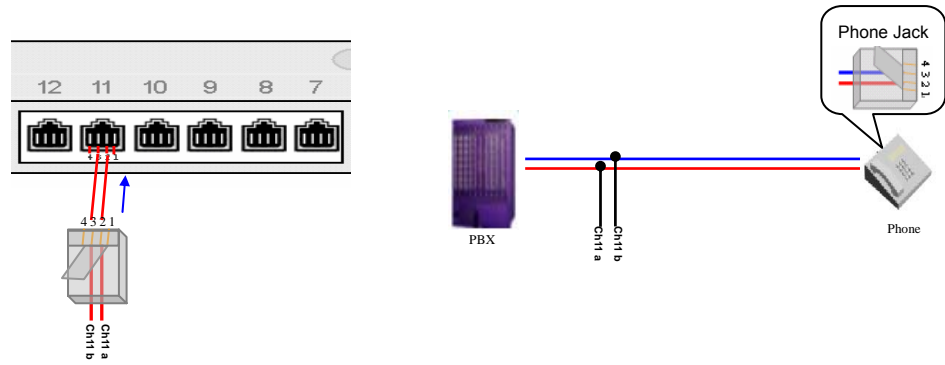

Figure 2-6
① In case of connection with RJ11 jacks, our company provides an RJ21 connecting line and an RJ21-to-RJ11 adapter and recommends the following connection methods:
- a. Connection by 2-lead lines: See Figure 2-6 below. Connect the 2-lead line to the middle 2 pins of each jack which correspond to one channel. Note that the outer 2 pins of each jack cannot be used for connection in this case.